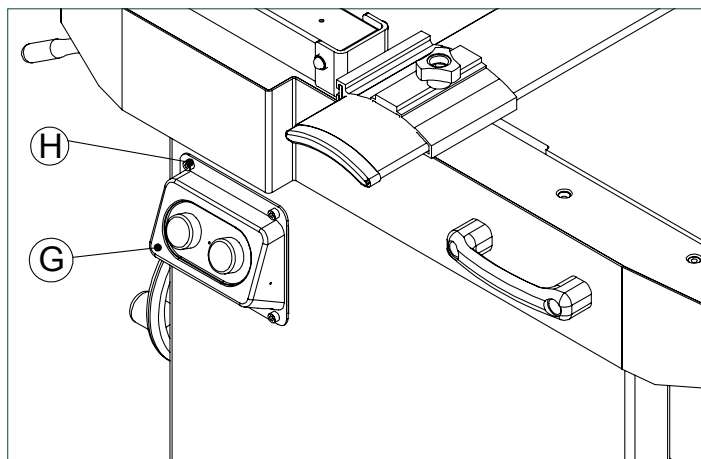
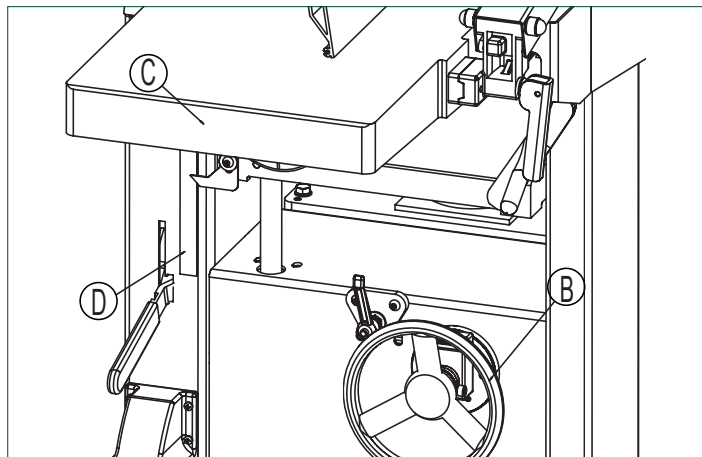

FIG. 4
FIG. 7
- Fit the switch (G, Fig.4) onto the bracket with two hex nuts (H, Fig.7)
- Workpieces of max. 200 mm thickness can be planed. Height adjustment is made with a handwheel (B, Fig.7). One full turn of the crank changes the height of the thicknesser bed (C, Fig.7) by 4 mm.
- Counter-clockwise turning = lowers the thicknesser bed. The set planing thickness is indicated on the scale (D, Fig.7).